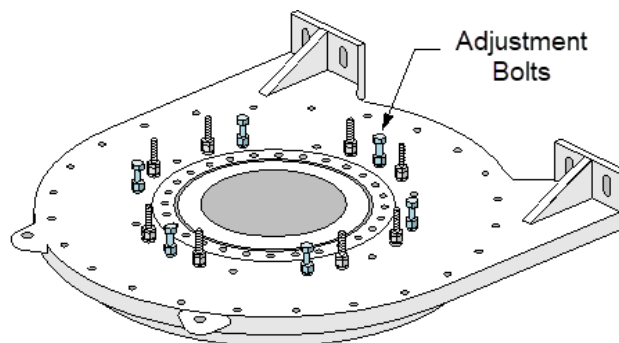

Figure 10-18: Adjustment Bolts
8. Install the adjustment bolts (901.04) with nuts and washers (50-7.04\*, 543.04\*, and 920.04) into the corresponding taps (Figure 10-18).